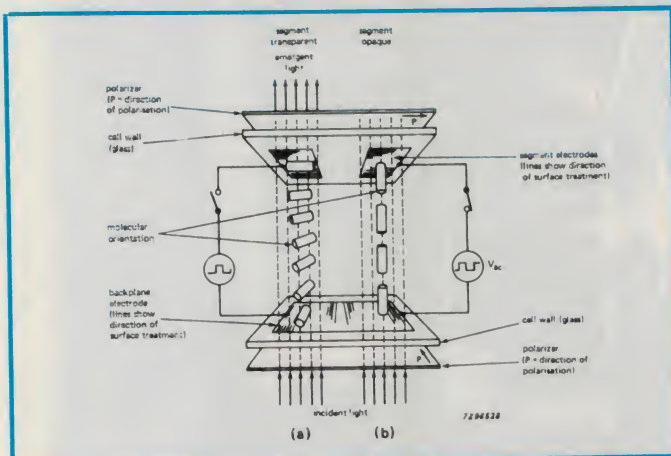

Fig.3: Principle of operation of the Twisted Nematic (TN) display (a) OFF state (b) ON state.
The operating principle of *Twisted Nematic* (TN) LCDs is illustrated in Fig.3. The nematic liquid crystal molecules are anchored in a fixed direction at the top and bottom plates by the orientation layer.
As the orientation directions of the top and bottom plates differ by an angle of 90° , the crystal molecules are twisted through a 90° helix between the two plates. Polarising filters are aligned with the orientation directions at the respective sides. Polarised light from the bottom polariser is then guided by the crystal molecules through the helix to the top plate, with its polarisation direction rotated by 90° . This property is caused by the *optical* anisotropy of the molecules. As such the polarisation direction is aligned with the top polariser and the light passes unhindered through it to give the display a bright appearance (Fig.3(a)).
tal but will maintain its polarisation direction and will be absorbed by the second polariser – see Fig.3(b).